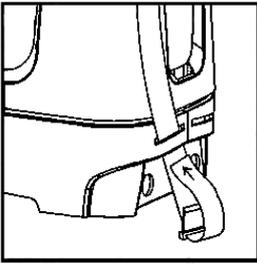

fig.5
- 4.1.6. Pass strap back through the opening on the side of the tank (fig.5).